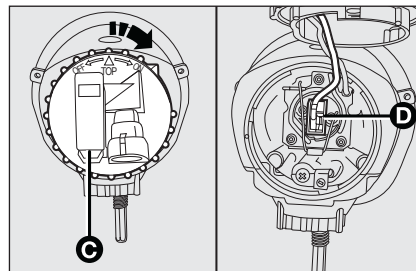

fig. 30
- loosen cover **C**-fig. 30 and remove the connector **D**;